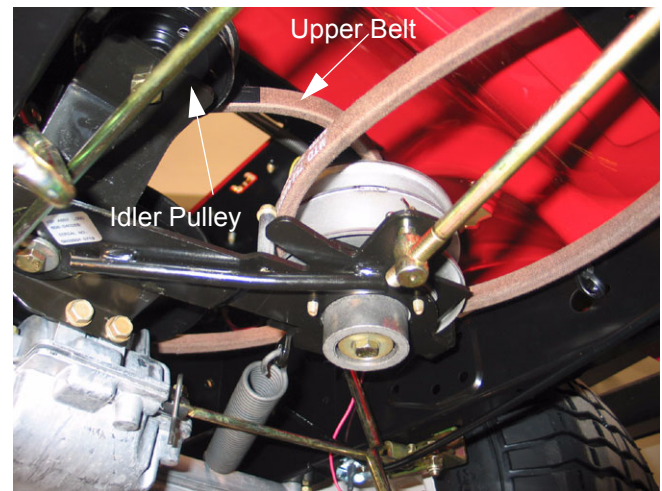

Figure 32
- 8.4. Remove the upper drive belt from around the idler pulley. See Figure 32.